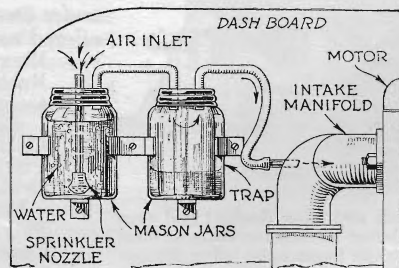

Fig. 7. Ingenious arrangement of two mason jars to serve as an air moistener. The second jar prevents any of the water from being drawn into the cylinders
ONE of the objections to the ordinary way of building a moistener for the air that goes into the manifold of your motor is that there is a chance, when the car goes over a bump, of the water's splashing up and being drawn into the manifold in the liquid state. By building your air moistener in two mason jars as shown in Fig. 7, the second jar acts as a water trap. In operation, the suction of the manifold causes a constant stream of air to flow from the nozzle in the first jar and come up through the water in the form of fine bubbles. The amount of water vapor absorbed by the air is in proportion to the size of the bubbles; the smaller the bubbles, the more nearly the air drawn through the jar approaches the saturated state.
M. L. BURGHAM, of Parnassus, Pa., wins the \$10 prize this month for his suggestion of an air moistener (Fig. 7). Each month **POPULAR SCIENCE MONTHLY** awards \$10 in addition to regular space rates to the reader sending in the best idea for motorists. Other published contributions will be paid for at usual rates.